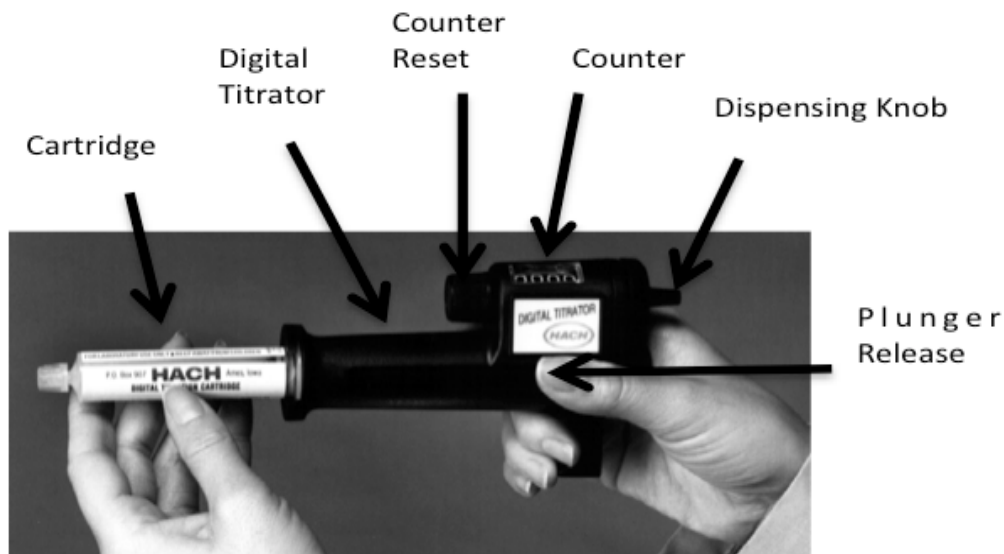

Figure 16. Inserting titrant cartridge into digital titrator. Photo from the Hach Digital titrator manual
- b. Insert cartridge into the end slot of the titrator (Figure 16) and **rotate cartridge** one-quarter turn to lock into place.
4. While wearing gloves, remove cap on titration cartridge and insert a clean titration tube into the cartridge tip (Figure 16). If tube is new, label tube with correct normality. You may need to turn the titrator upright so the bubble comes to the tip. Store the cap in alkalinity test kit, so that you do not lose the cap. You will need to recap the cartridge when finished.